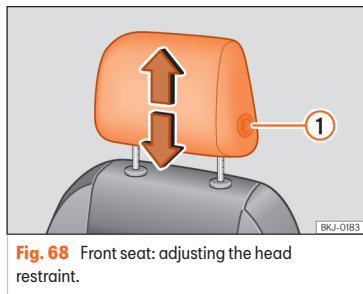
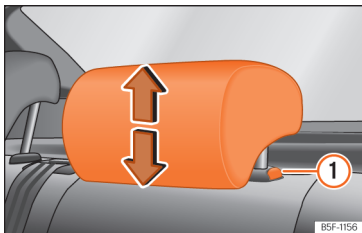

Fig. 68 Front seat: adjusting the head restraint.
Fig. 69 Rear headrest: adjusting the headrest.
- Grab the sides of the head restraints with both hands and push upwards to the desired position. To lower it, repeat the same action, pressing the button on the side ① >>> Fig. 68, >>> Fig. 69.